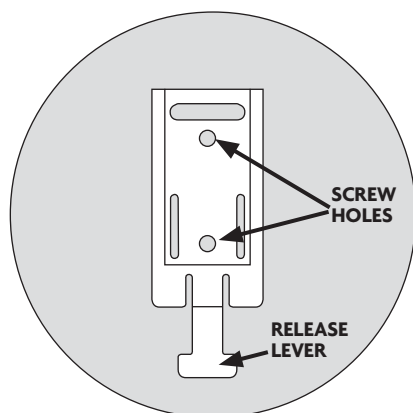

Fig. 13 - Chair/Wall Bracket (Front View)
2. Use wall/chair bracket (Cat. No. 8276 (without wire clip), (fig. 13).
- Position wall bracket with back (flat side) against wall (fig. 13).